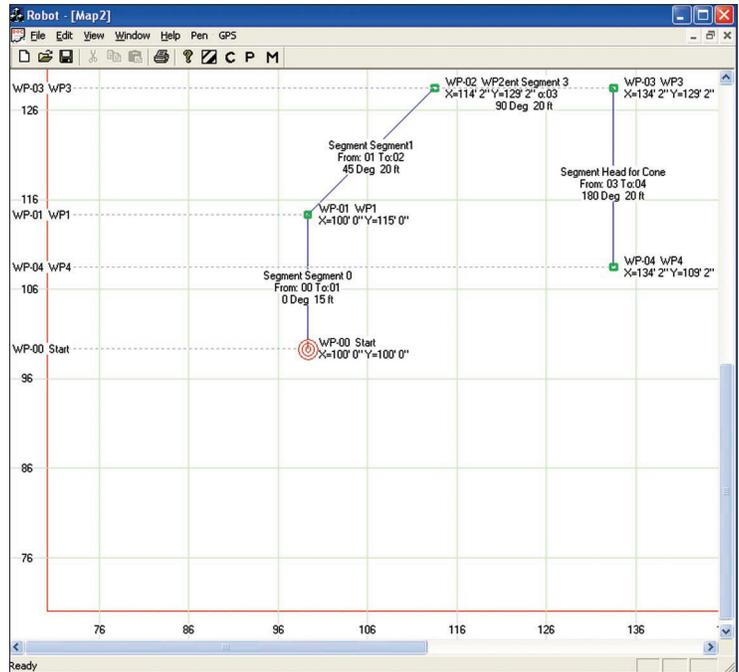

FIGURE 3. Seeker Map
- Graphical mapping for navigation debugging (Figure 3)